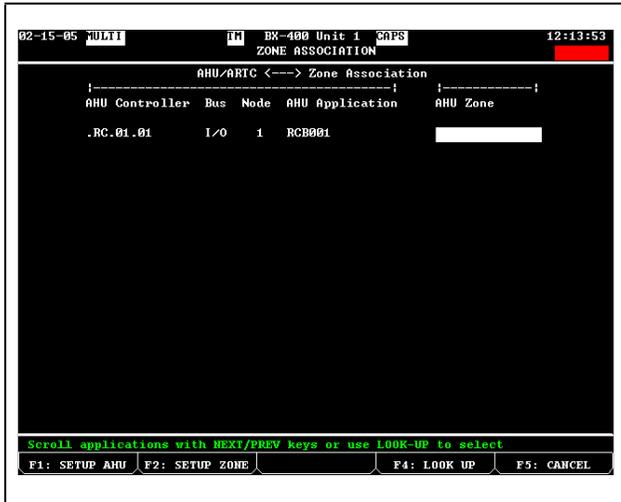

Figure 7-1 - E2 Associations Screen
6. This screen will list all RCBs, RTUs, and AHU applications in the E2 (see **Figure 7-1**). Each of these will have a field under the "AHU Zone" column where you may choose the Zone application the controller may be associated with.